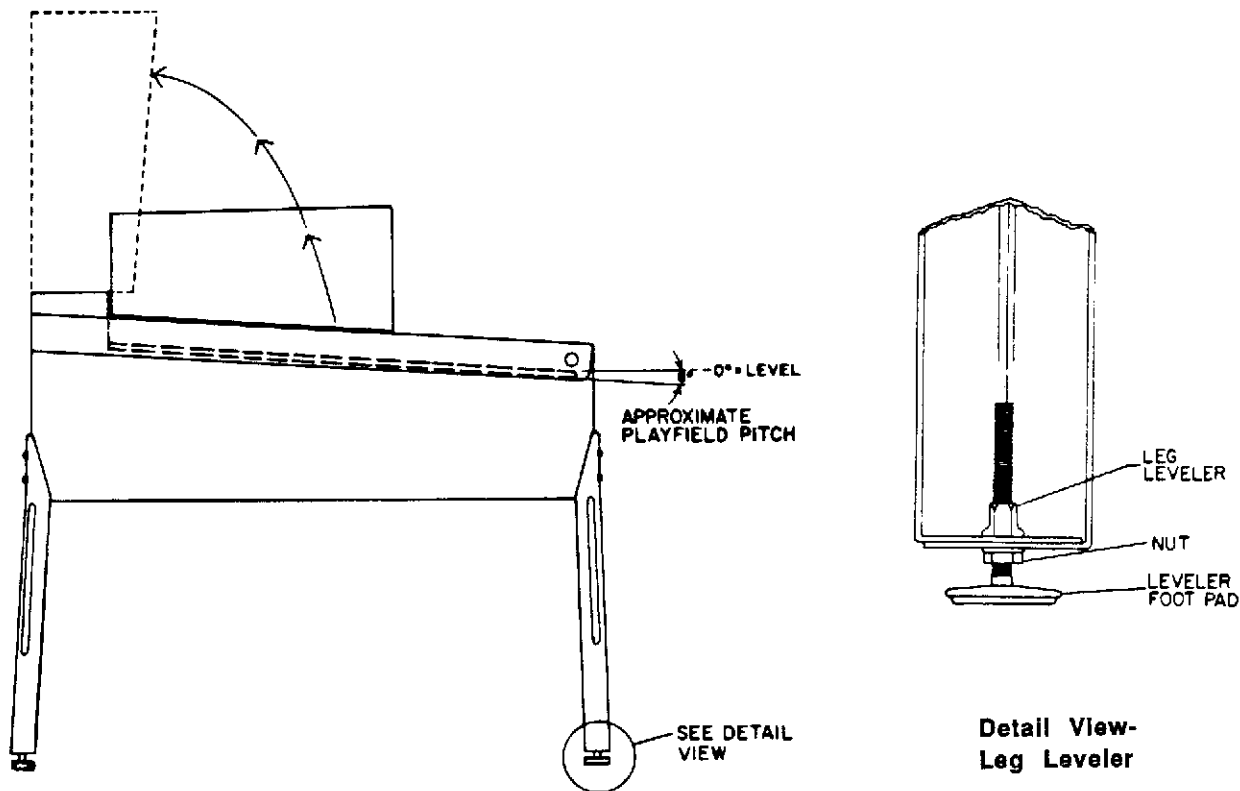

Figure 1. Pinball Assembly, Playfield Pitch Angle, and Leg Leveler Details.
9. Adjust the leg levelers for proper playfield level (side-to-side) *and* playfield pitch angle (incline) of approximately 6 degrees. (Again, it is recommended that these measurements be made ON the playfield, not the cabinet nor the playfield cover glass.) Tighten the nut on each leg leveler shaft to maintain this setting, as shown in Figure 1.